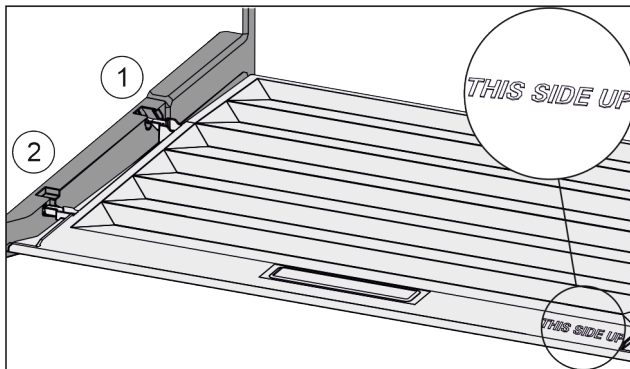

Fig. 34
- Insert the lip of the cover over the opening of the rear bracket Fig. 34 (1) and click into place Fig. 34 (2).